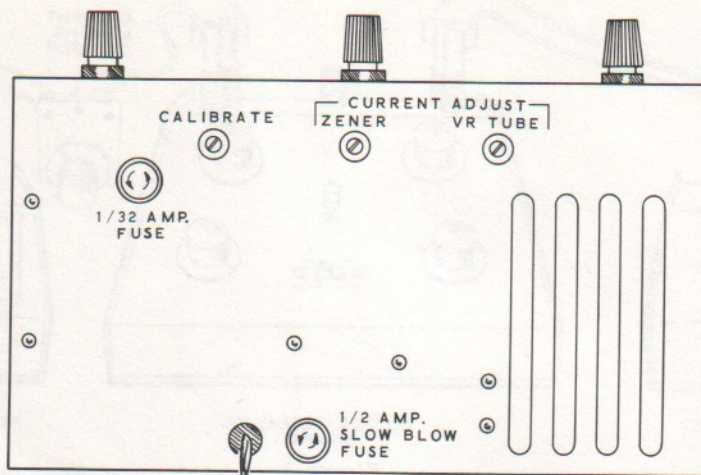

Figure 5
4. Refer to Figure 5 and adjust the CALIBRATE control (at the rear of the Voltage Reference Source), without pressing the ZERO button, to obtain the same zero voltage indication on the VTVM.